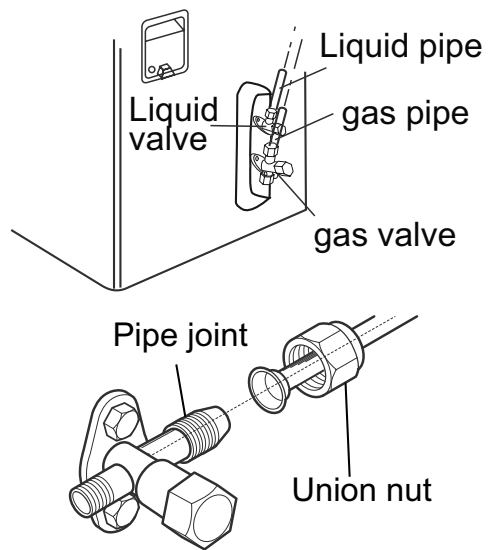

Fig.22
- (2) Remove the screw cap of valve and aim the pipe joint at the bellmouth of pipe. (As shown in Fig.22)